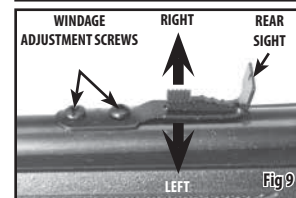

Fig 9
- The rear sight may be adjusted to shoot higher or lower (elevation). Move the rear sight elevator back to make the pellet hit higher on the target. Move the rear sight elevator forward to make the pellet hit lower on the target. When moving the elevator, slightly lift the rear sight and reset it on the desired notch in the elevator. (Fig. 9)